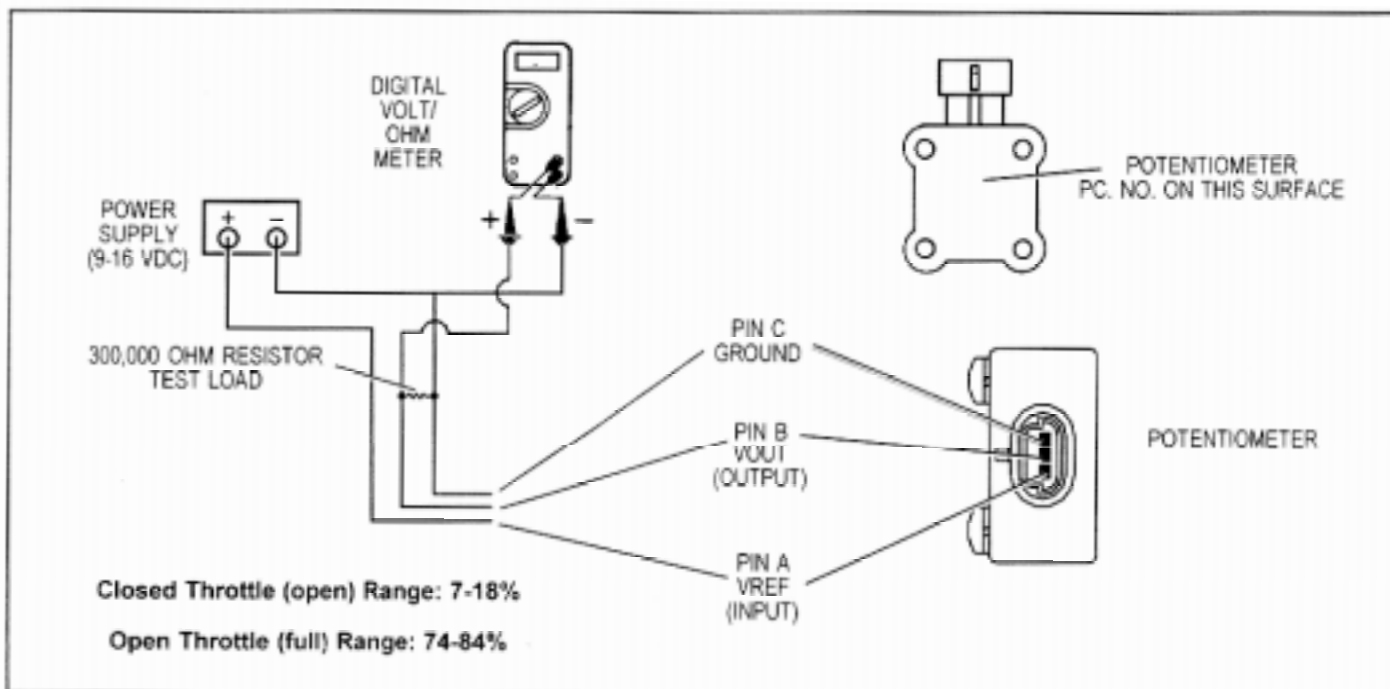

FIGURE 4 - ET-S ELECTRICAL TEST SCHEMATIC FOR THE DETROIT DIESEL CONNECTOR
- b. Connect the Potentiometer to the volt meter and power supply as shown in Figures 4, 5, or 6, depending on the model. **Note:** The power supply can be a 12 VDC vehicle battery in good condition and with known voltage output.